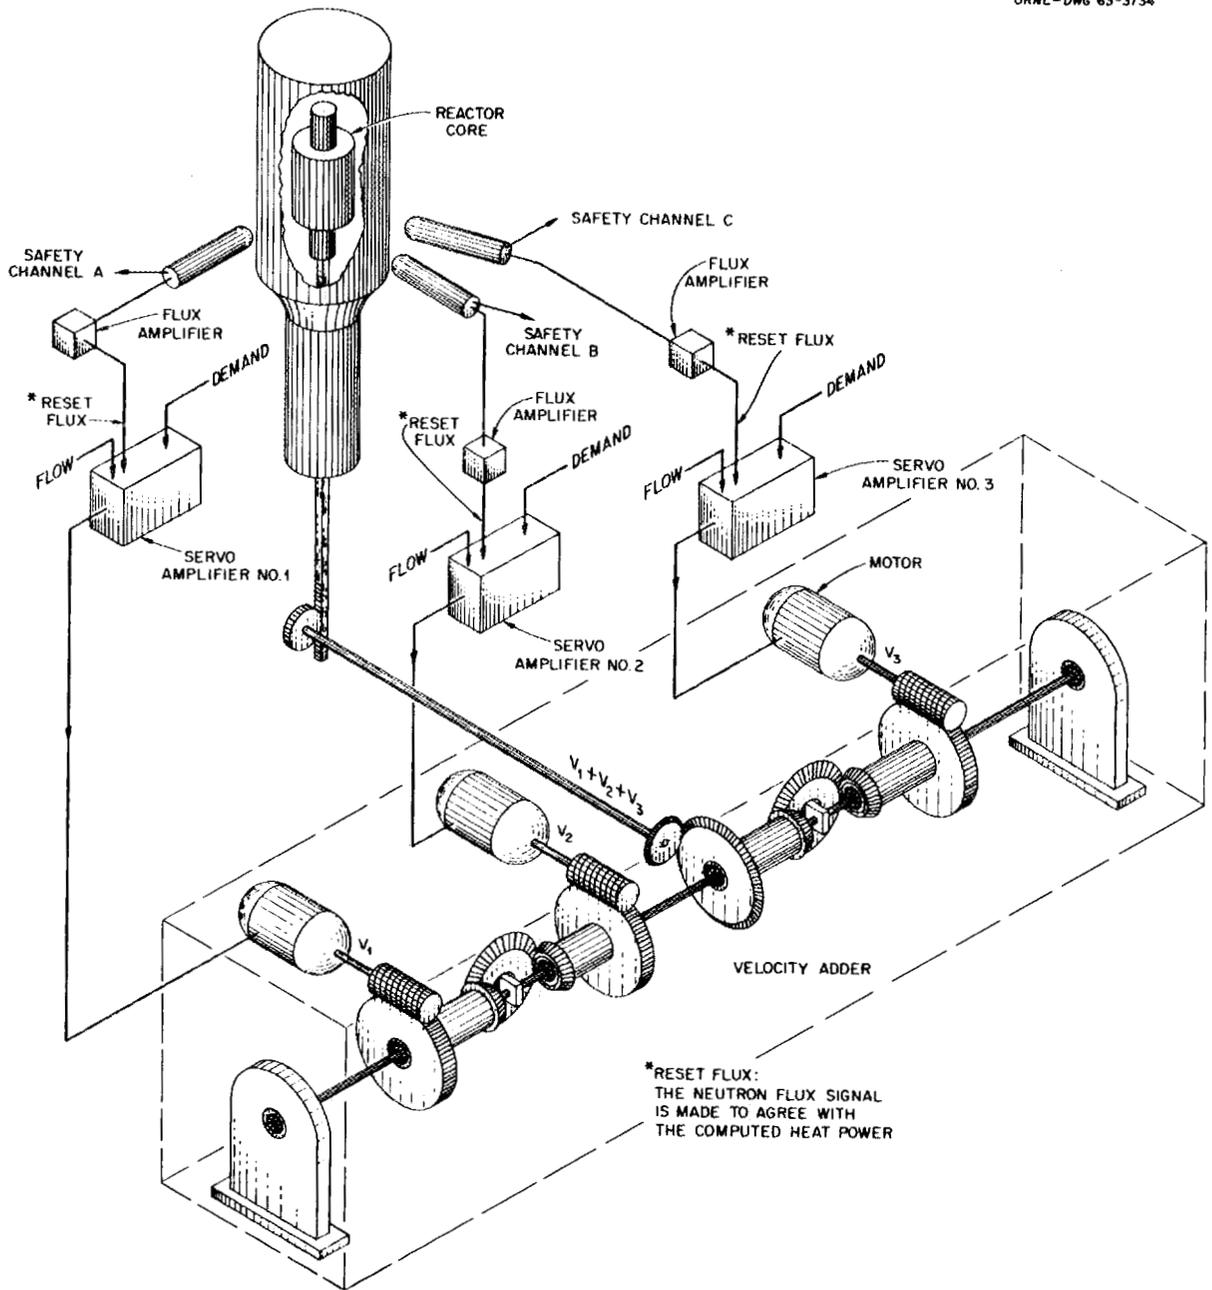

Fig. V-54. HFIR Servo System
4.7. The HFIR Servo System (see Figure V-54)
140. As noted in Figure V-54, this raw signal is first amplified by the flux amplifier. ionization
155. As noted in Figure V-54 the three motors are attached to the drive mechanism of the regulating cylinder through a system of differential gears which make up a "velocity adder". motors